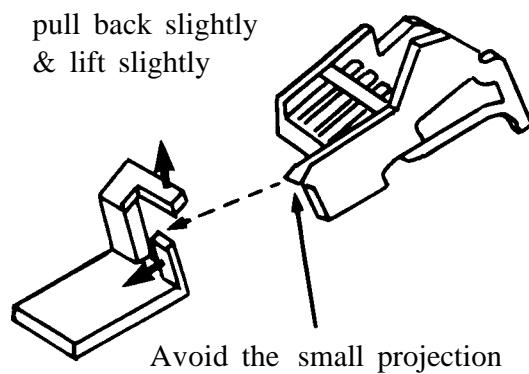

Figure 4-17 Releasing Locking Tab
- 3.4 Release locking tab at bottom of Switch. (Fig. 4-17)
- 3.5 Lift switch out of back cover (Fig. 4-17)